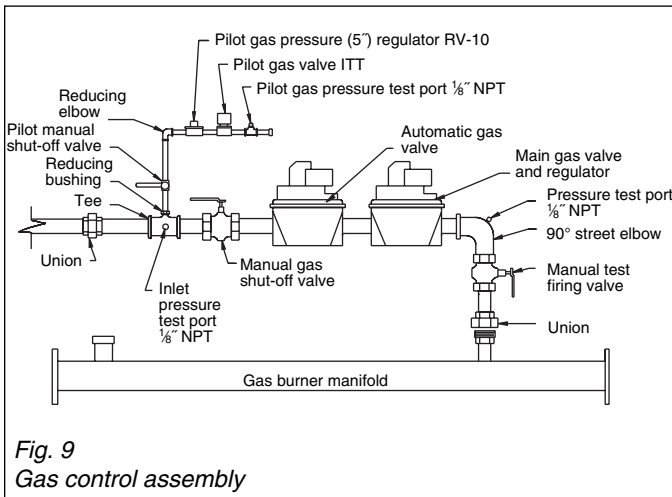

Fig. 9
- Assemble four frame rails (items 52, 53, 54) around casting base, with overhang toward front. Fasten with four M6 nuts.
- Assemble side panels. Press upper (items 57, 58) and lower (items 81, 82) side panels together by inserting push studs into retainers. Press the front side panel (item 65) to the upper and lower panel assembly and fasten with Phillips screws (two per side).
- Attach rear panel (item 63) to side panels using eight 7 x 1/2" self-tapping Phillips screws. Angled fold must be at top and pointing inward. Remove tape applied in step c).
- Position lower mid panel (item 67) so that the lower fold sits on the pins on the burner manifold. Fasten to side panels using two 7 x 1/2" Phillips screws.
- Position upper mid panel (item 62) and fasten to lower mid panel and side panels using four 7 x 1/2" Phillips screws.
- Position the top cover (item 69) and press push studs into retaining clips.
- Press lower front panel (item 66) onto side panels.
2.4.4 Gas controls (see Figs. 9, 11, 22, 23, 25)
Refer to Fig. 9, Gas controls, and Wiring diagram.